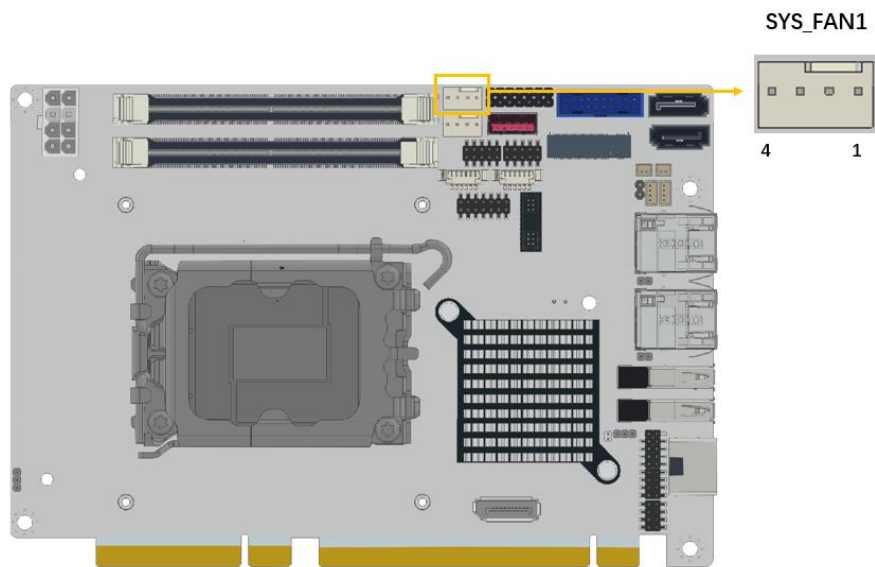

Figure 3-14: System Fan Connector Location
- CN Location:** See **Figure 3-14**